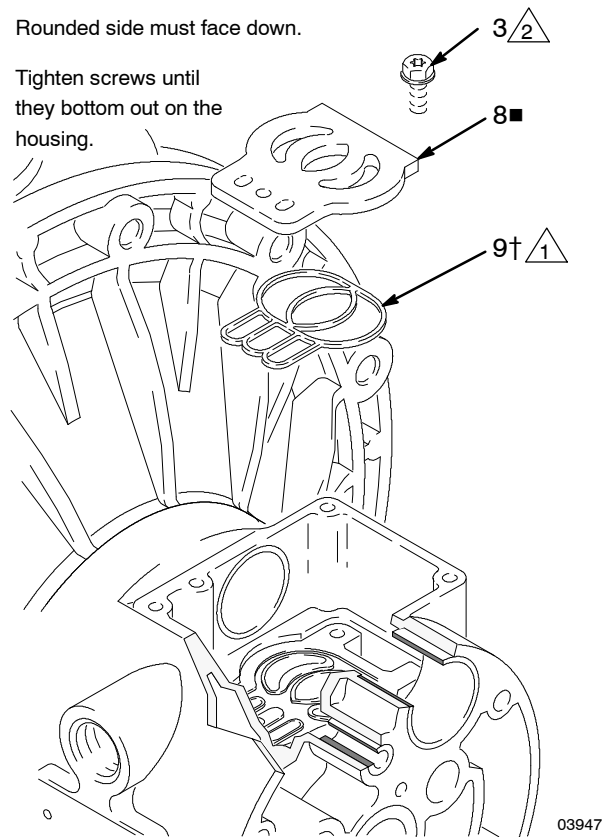

Fig. 10
5. Inspect the valve plate (8) in place. If damaged, use a Torx (T20) screwdriver or 7 mm (9/32") socket wrench to remove the three screws (3). Remove the valve plate (8) and, on aluminum center housing models only, remove the seal (9). See Fig. 10.
2. On aluminum center housing models, install the valve plate seal (9) into the groove at the bottom of the valve cavity. The rounded side of the seal **must face down** into the groove. See Fig. 10.
3. Install the valve plate (8) in the cavity. On aluminum center housing models, the plate is reversible, so either side can face up. Install the three screws (3), using a Torx (T20) screwdriver or 7 mm (9/32") socket wrench. Tighten until the screws bottom out on the housing. See Fig. 10.